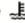

Fig. 22 In the Infotainment system: Performance Monitor sport gauges. Gauges shown in the display may vary depending on configuration.
- Boost pressure gauge → Fig. 22①
- Accelerometer (g-meter) → Fig. 22②
- Power display → Fig. 22③
The boost pressure gauge → Fig. 22① shows the pressure in the boost pressure duct between the turbocharger and the engine (shown in bar or psi, depending on the units selected). The farther right the needle points on the gauge, the higher the pressure in the boost pressure duct and the greater the output from the engine.
The accelerometer, or g-meter → Fig. 22②, shows the current vehicle acceleration in the center display (shown in g).
The power display → Fig. 22③ shows the current engine power output on both a gauge and a digital display (shown in kilowatts).